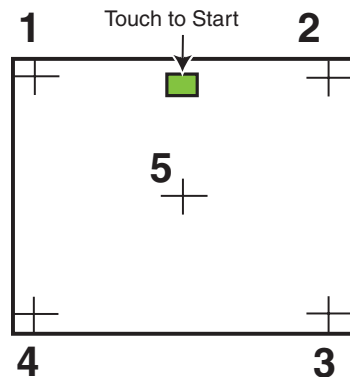

Figure 17. Sequence of Cross Positions for Setting the Touch Accuracy of a Screen
4. Repeat by tapping the crosshatch as it reappears in each corner, in sequence (see Figure 17 on previous page) and then tap the crosshatch when it appears in the center of the screen.